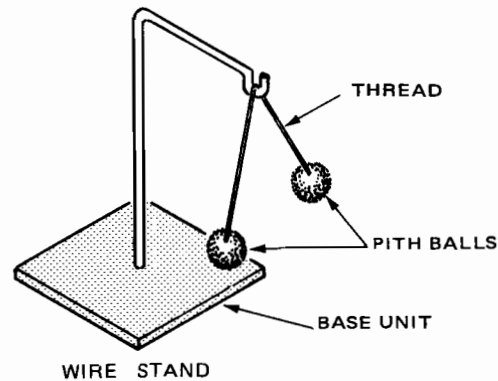

Fig. 1-3-1
1. Assemble wire stand by placing wire into drilled hole in wooden base unit. Place assembled unit upright on bench. See Fig. 1-3-1.